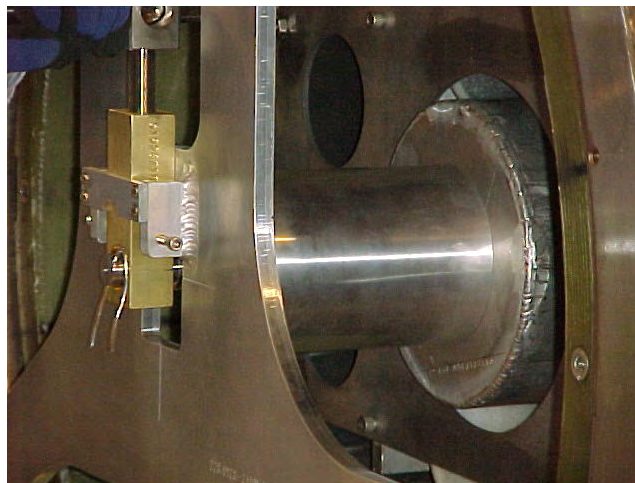

Figure 51 – Tube Pilot Shaft and Support Plate
- L. Push the Pilot Shaft through the Support Plate mounting bearing. Insert a nonmagnetic safety pin through the hole in the Pilot Shaft. (**FIG 51**)